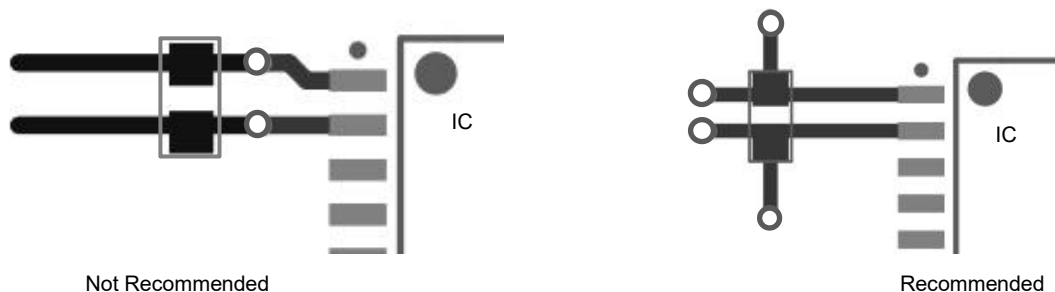

Figure 8-2
3. When it is necessary to place vias in the power supply line and the ground wire, the position of the vias should be placed on the outside of the capacitor relative to the chip pins, other than between the capacitor and the chip, as shown in the figure 8-2 below to reduce the number of vias effect of parasitic inductance.